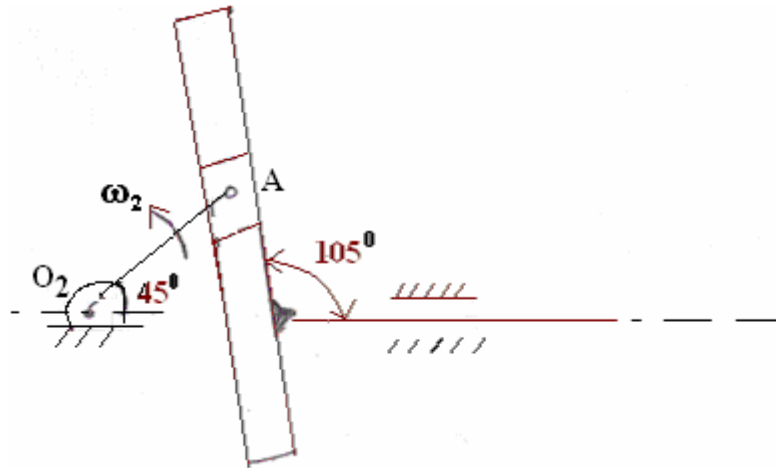

Figure 6
8. The figure 6 show a variation of the Scotch-yoke mechanism. It is driven by crank 2 at $\omega_2 = 36 \text{ rad/s}$ ccw. Find the velocity of the crosshead. Link 4. Use instant centre method. $O_2A = 250 \text{ mm}$. [16]